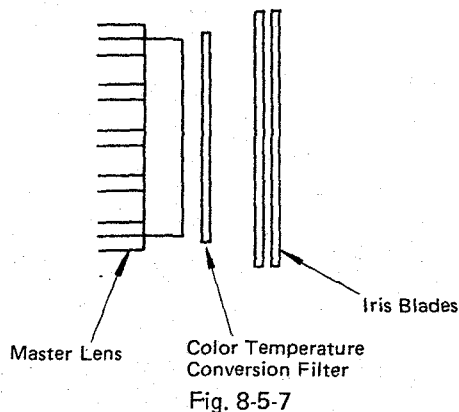

Fig. 8-5-7
- Insert the color temperature conversion filter between the iris blades and the master lens. (Fig.8-5-7) Be careful not to touch the iris blades.